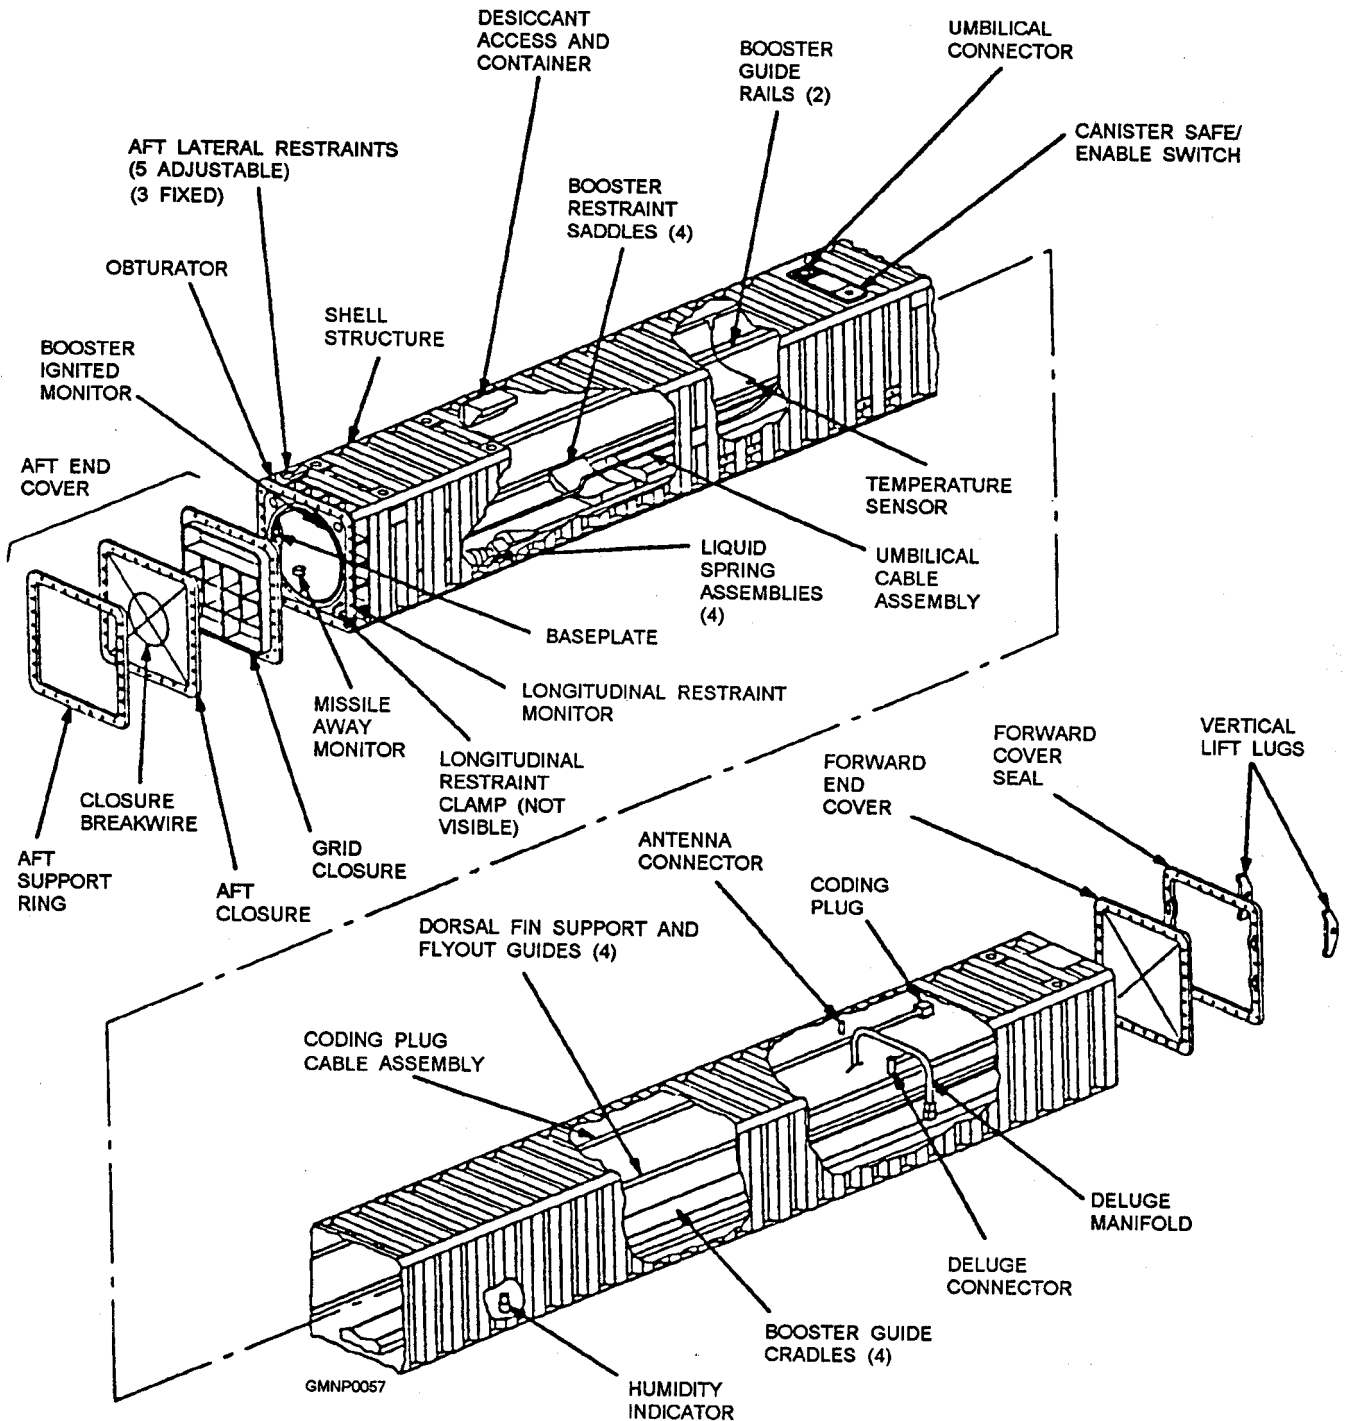

Figure 2-42.—Mk 21 Mod 0 canister.
**MK 21 MOD 0 VLS CANISTER**— The Mk 21 Mod 0 canister houses the SM-2 Block IV, extended range (ER) surface-to-air-missile (SAM) (fig. 2-42). Unlike other canisters, this is a single use canister. Dorsal fin flyout guides, booster guide rails, and booster guide cradles provide alignment for the missile during launch. A longitudinal restraint clamp is held secure to the booster until missile launch.